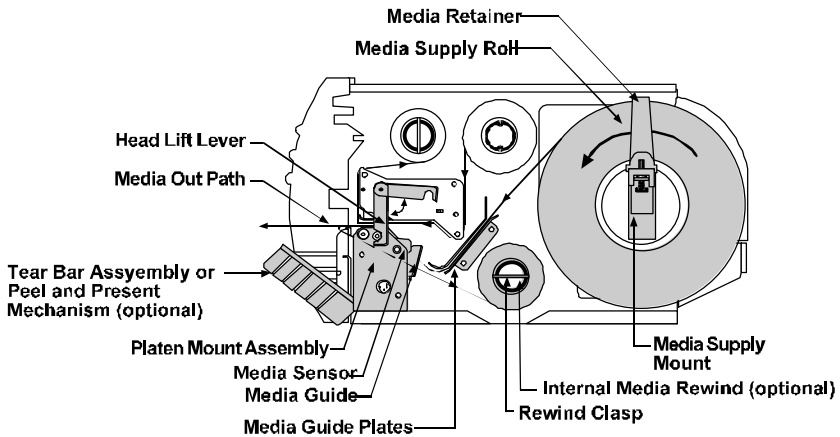
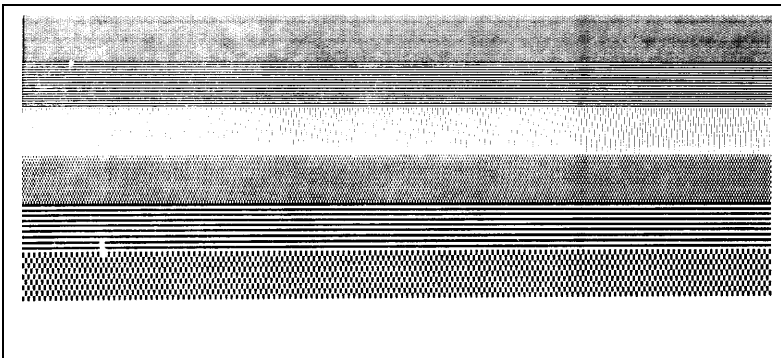

Figure 1-6 Label Loading Diagram
Figure 2-1 Test Label
5. Insert the label stock as shown in Figure 1-6.
If a label edge is not detected within 12" (305mm) of stock, the Printer will stop feeding labels. If this occurs, refer to Section 1.4 and reload the Media, see Figure 1-6 to find the location of the Media Sensor. If a label edge is detected, the Printer will begin to print the Self-Test pattern. An example of a test pattern is shown in Figure 2-1. After the test pattern has printed successfully, the Printer's power switch must be turned 'off' and then turned 'on' again to reset the Printer.